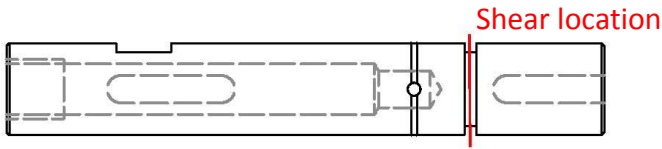
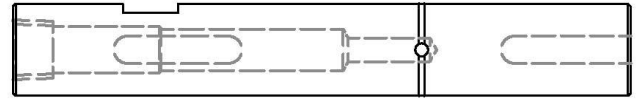

Figure 1.1
Figure 1.2
A "SHAFT, ROTARY ACTUATOR, MAIN GEAR" (1005277) has sheared off at the O-ring groove in a float and has been bent in another float. See Figure 1.1.
5. Removal and replacement of ACTUATOR, SHAFT, MAIN GEAR (1005277 Rev C (see figure 1.1)) with ACTUATOR, SHAFT, MAIN GEAR (1005277 Rev D (see figure 1.2)).
6. Replace actuator shaft 1005277 (Rev C)(Figure 1.1) with 1005277 (Rev D)(Figure 1.2). See Figure 4. When shaft is removed make certain to mark spur and rack gears so new shaft is in same position.